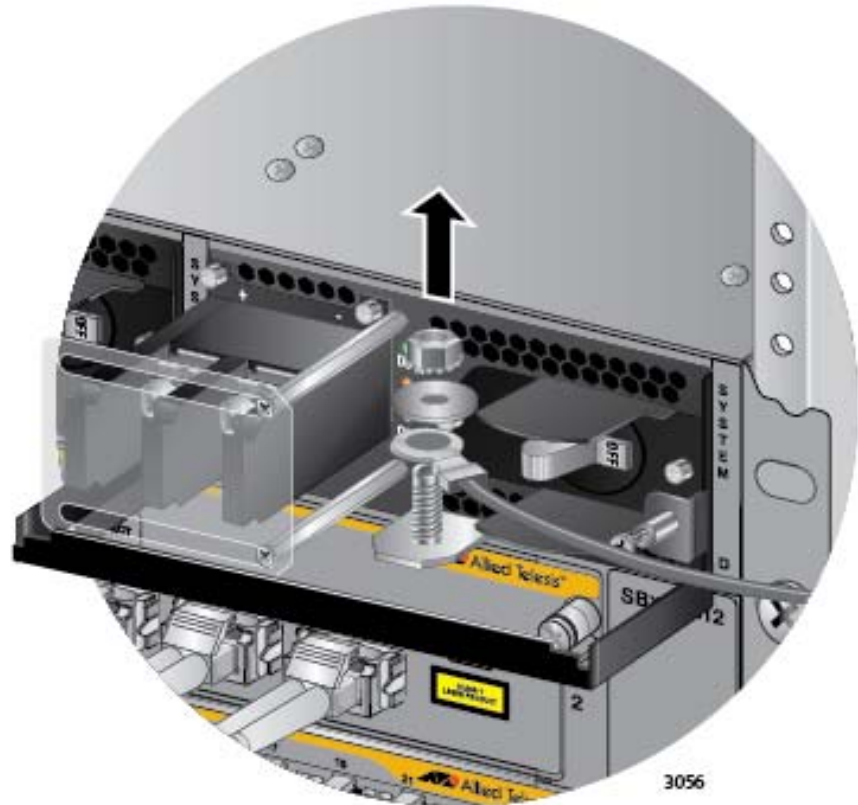

Figure 140. Removing the Grounding Wire
9. Use an 8 mm wrench to remove the grounding wire from the grounding post. Refer to Figure 140 on page 224.